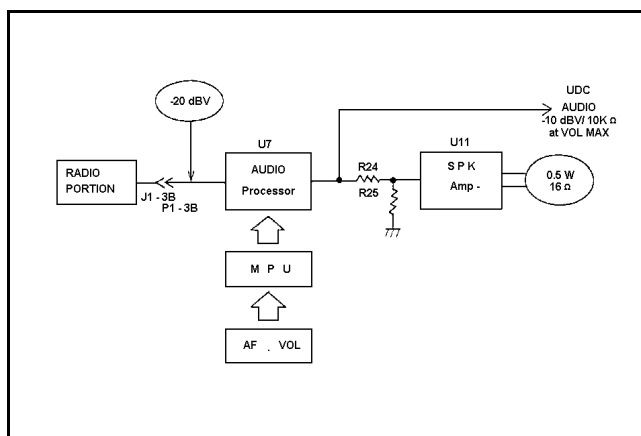

Figure 6 - Receive Audio Output
- b. Control Board : The receive RF signal comes into P1, Pin 3B. The signal is then applied through a 14dB amplifier, 300-3000Hz BPF, de-emphasis and a 44 dB volume level control. The signal is then amplified by SPK amplifier U11 to drive the speaker. Typical levels needed to obtain a 1 kHz, 0.5 watt receive rated audio output are shown in Figure 6.